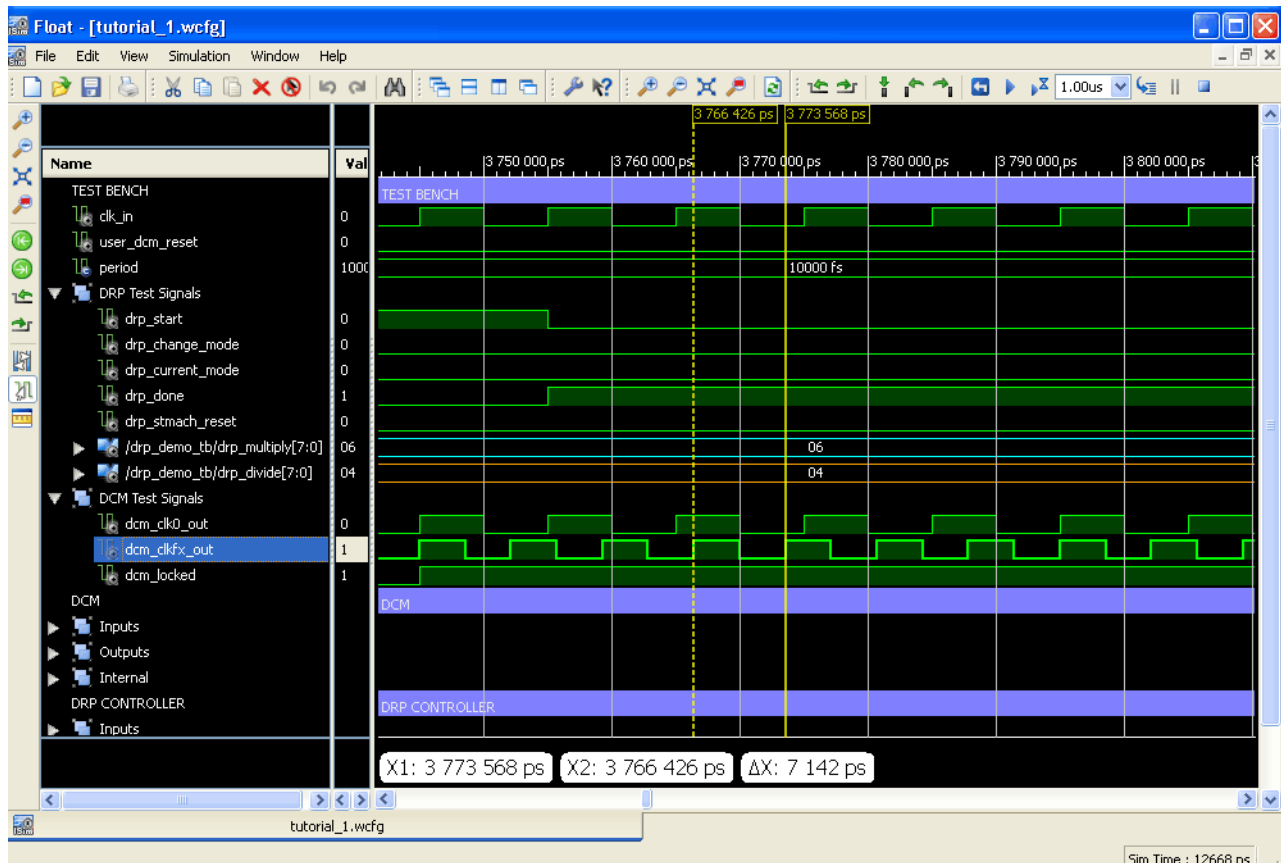

Figure 4-41: Time Delta
4. The time between the two defined endpoints will appear at the bottom of the wave window as a time delta (refer to Figure 4-41).